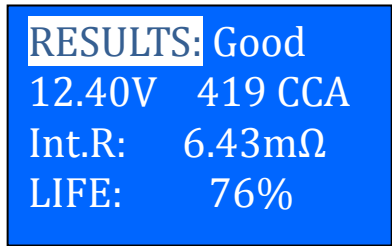

Figure 68
- 4. Press  key will proceed to display the last test results depending on the type of test you had performed earlier. (Fig. 68)